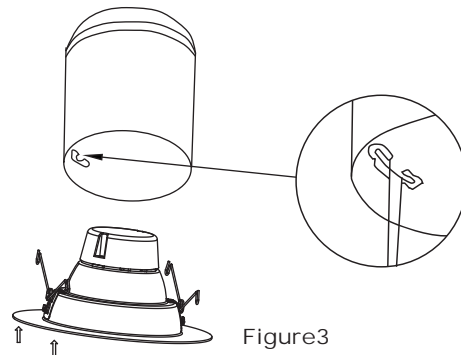

Figure3
**STEP4:** Squeeze the torsion springs together and install into torsion spring brackets inside the housing as shown. (Figure 3)